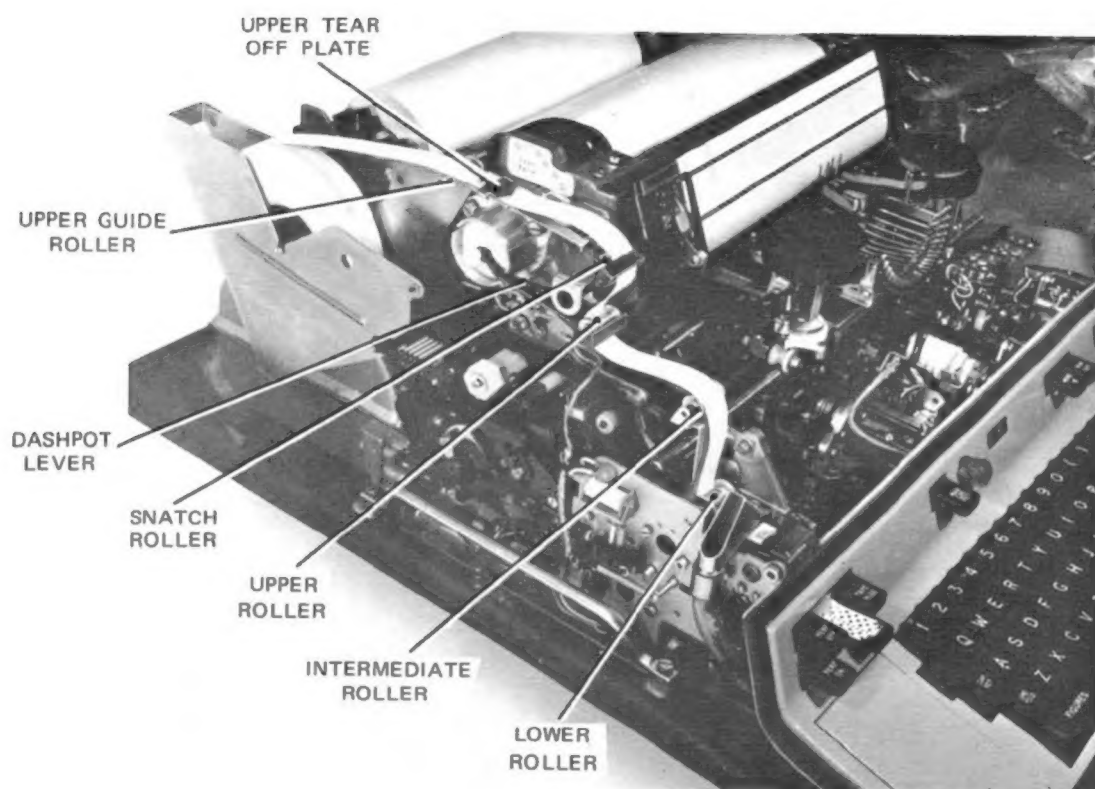

Fig. 2.10. TAPE PATH
- 4.14 Tear off the free end of the paper across the serrated blade of the tear-off plate (do not attempt to tear the paper against the wire guide). Check that the dashpot lever (Fig. 2.10) is fully counter-clockwise.
- 5.10 Check that the dashpot lever (identified on Fig.2.10) is fully counter-clockwise, and then close the lid.
- 6.8 Fit the reel centrepiece into the new spool of tape, and then fit into the tape reel holder so the tape feeds from the top of the reel towards the keyboard, as shown in Fig. 2.10
- 6.10 Check that the dashpot lever (Fig. 2.10) is fully counter-clockwise before pressing the MAN CAR RET key to bring the carriage back to the beginning of the line, then close the cover, reconnect the power supply, and press the PERF ON key.